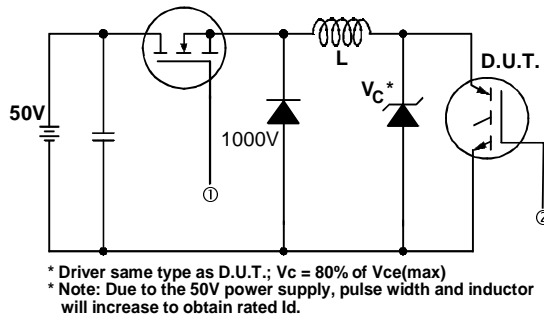

Fig. 13a - Clamped Inductive Load Test Circuit
- ② $V_{CC} = 80\%(V_{CES})$, $V_{GE} = 20V$, $L = 10\mu H$, $R_G = 10\Omega$, (See fig. 13a)
- ③ Repetitive rating; pulse width limited by maximum junction temperature.
- ④ Pulse width $\leq 80\mu s$; duty factor $\leq 0.1\%$.
- ⑤ Pulse width $5.0\mu s$, single shot.